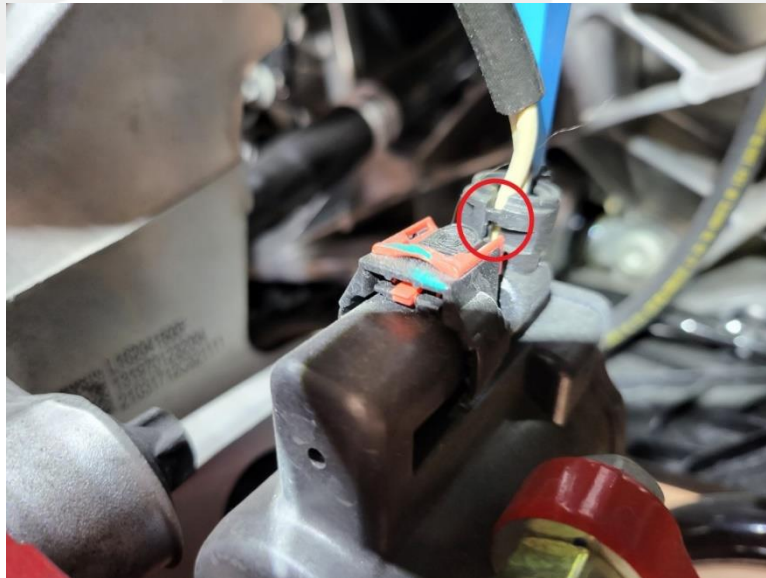

Figure 7
- b. After the backshell is unclipped, pull open the backshell enough to install the corrugated tube (Figure 7).